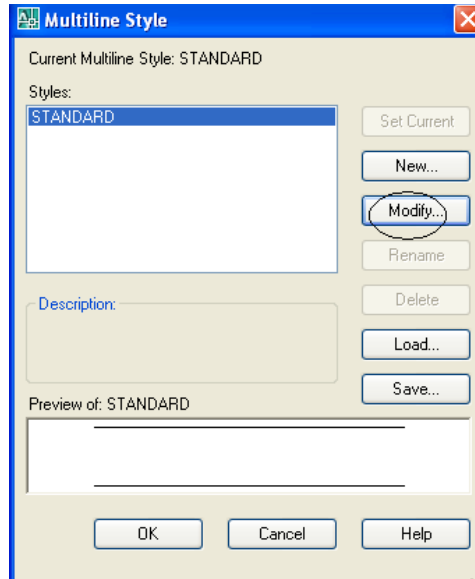

Figure 2
2. Select the “Modify” tab from the dialog box (Figure 2)